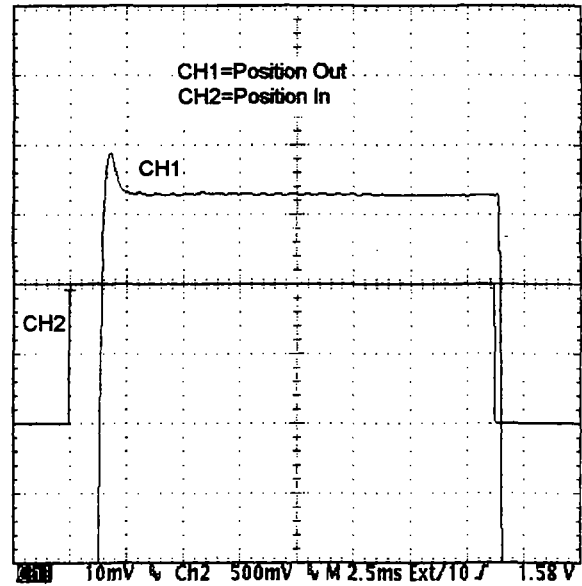

Figure 11.
7. Turn R59 CW to eliminate the second overshoot. See Figure 11. This will make the first overshoot much larger. This will be corrected by R28 in the next step.